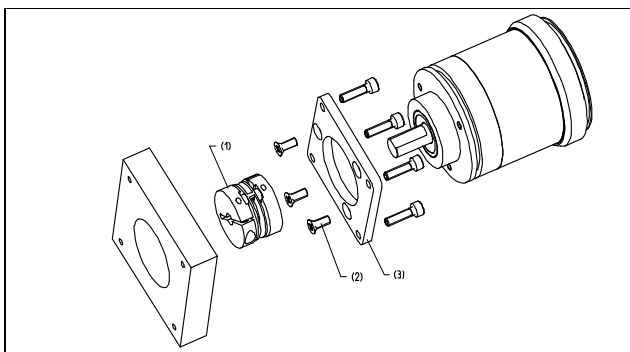

Figure 10-3: Face mount flange (Installation via threaded holes)
- Via the 3 threaded holes on the flange side (Figure 10-3).